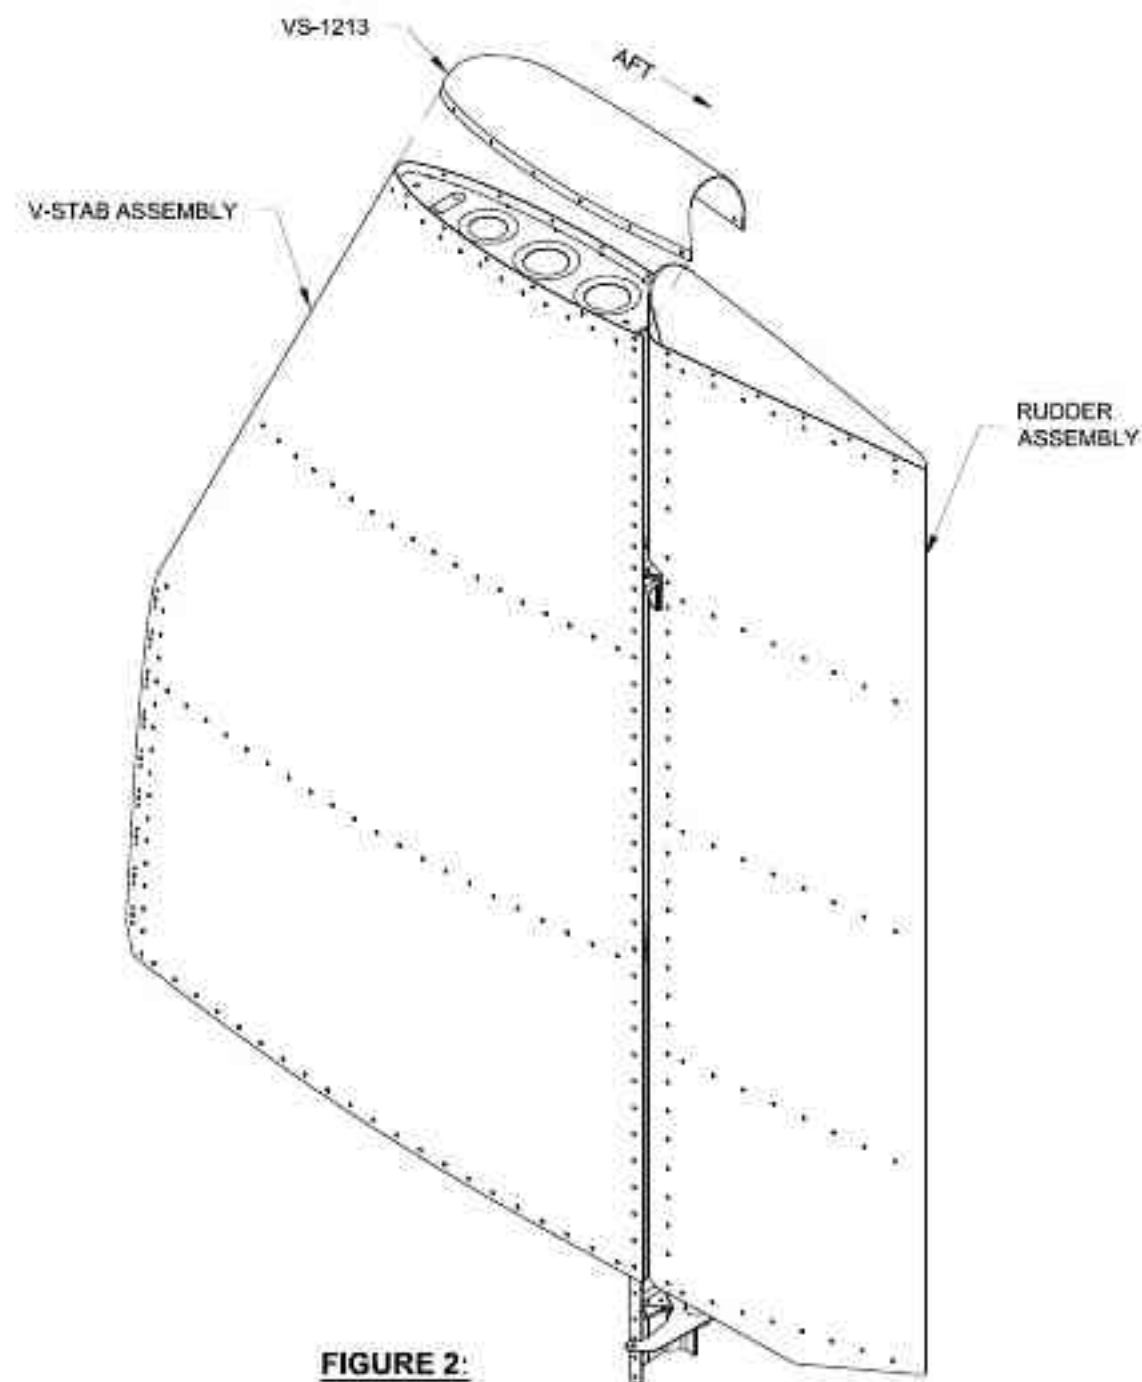

FIGURE 2:
Step 6: Place the VS-1213 in position as shown in Figure 2. Mark the aft edge of the VS-1213 to indicate any material that is within 1/8 in. (3.2 mm) of the Rudder Assembly. Remove the fairing, then trim to the marked areas to provide clearance for the Rudder Assembly. Repeat, as necessary, to achieve 1/8 in. to 1/4 in. (3.2 to 6.4 mm) clearance throughout the Rudder Assembly travel.